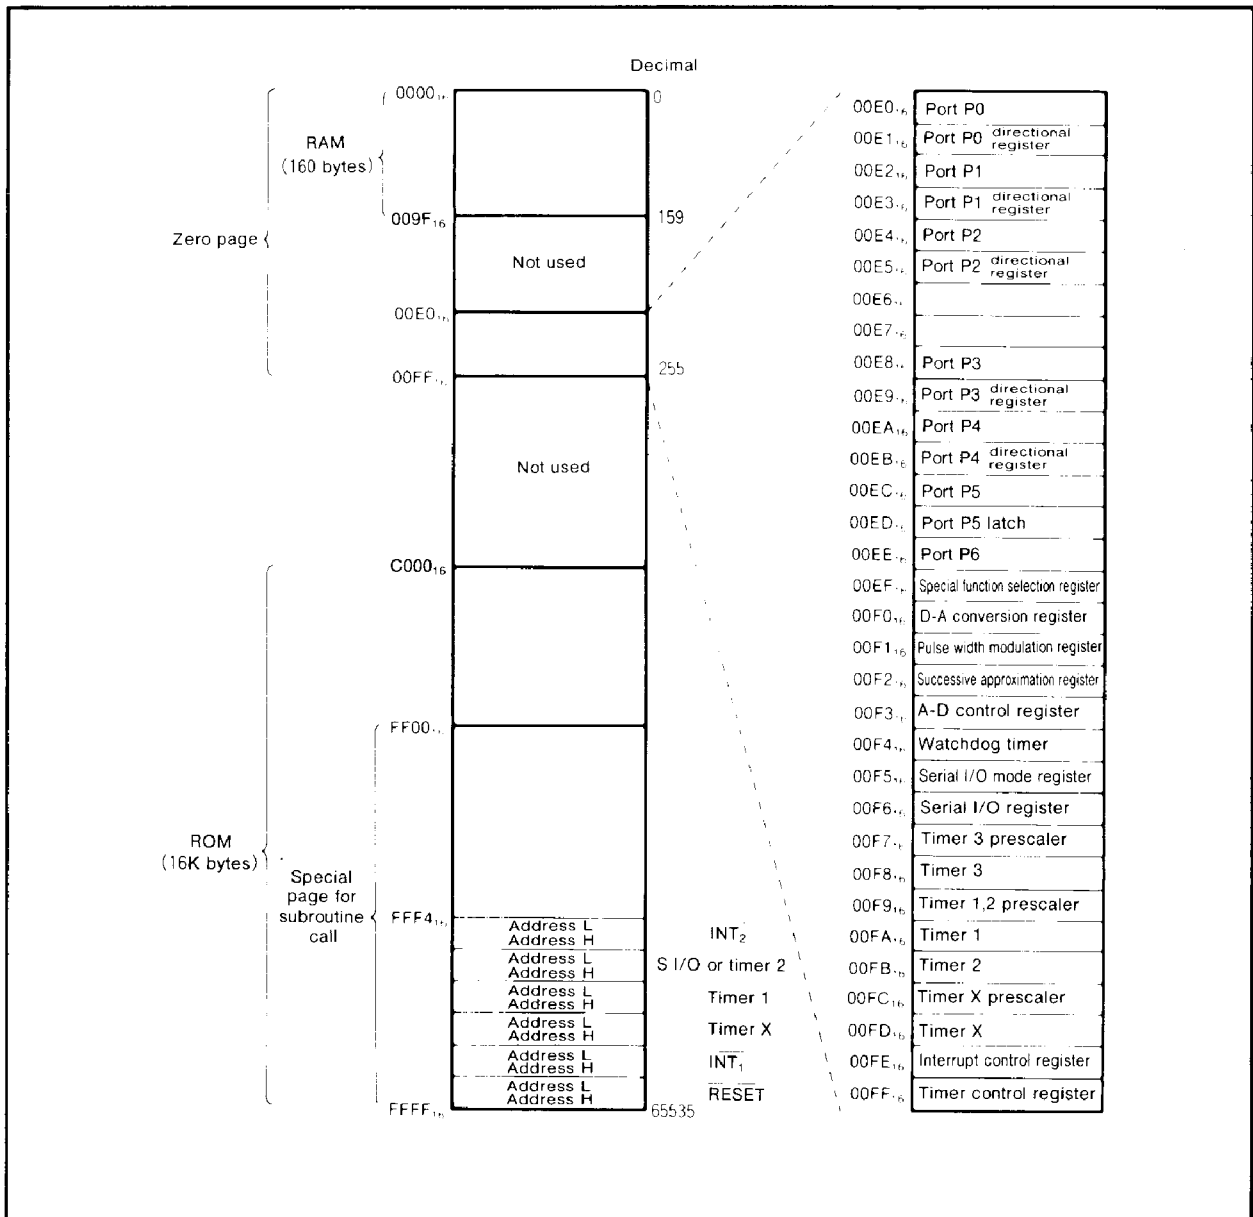

Fig.1 Memory map
The memory map is shown in Figure 1. The M50964-PGYS is mounted an EPROM instead of an internal ROM. The address of an EPROM is C000₁₆ ~ FFFF₁₆, and this memory size is 16384 bytes. Other than these, the M50964-PGYS has the same functions as the M50964-XXXSP/M50963-XXXSP have.
- (1) In case of the M5L2764K or the M5L27128K EPROM use the following areas (refer to Figure 1):